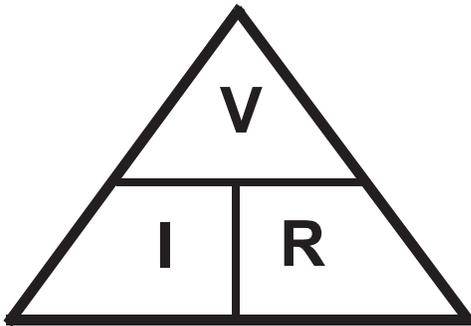

Figure 7.15
- Those who were traumatized by algebra can represent Ohm's law as a triangle. When using the triangle, cover the value to be found, and the two values left exposed signify how to obtain that value. See Figure 7.15.